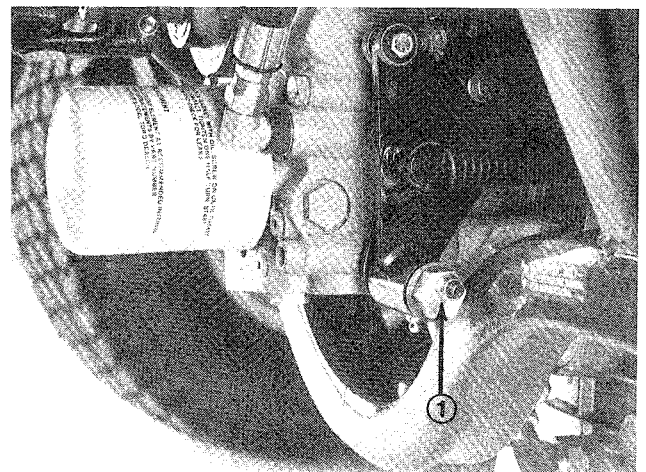

Figure 57
3. Loosen bolt securing brace to engine and bolt securing alternator to brace (Fig. 57).
ADJUSTING TRACTION DRIVE FOR NEUTRAL (Fig. 57)